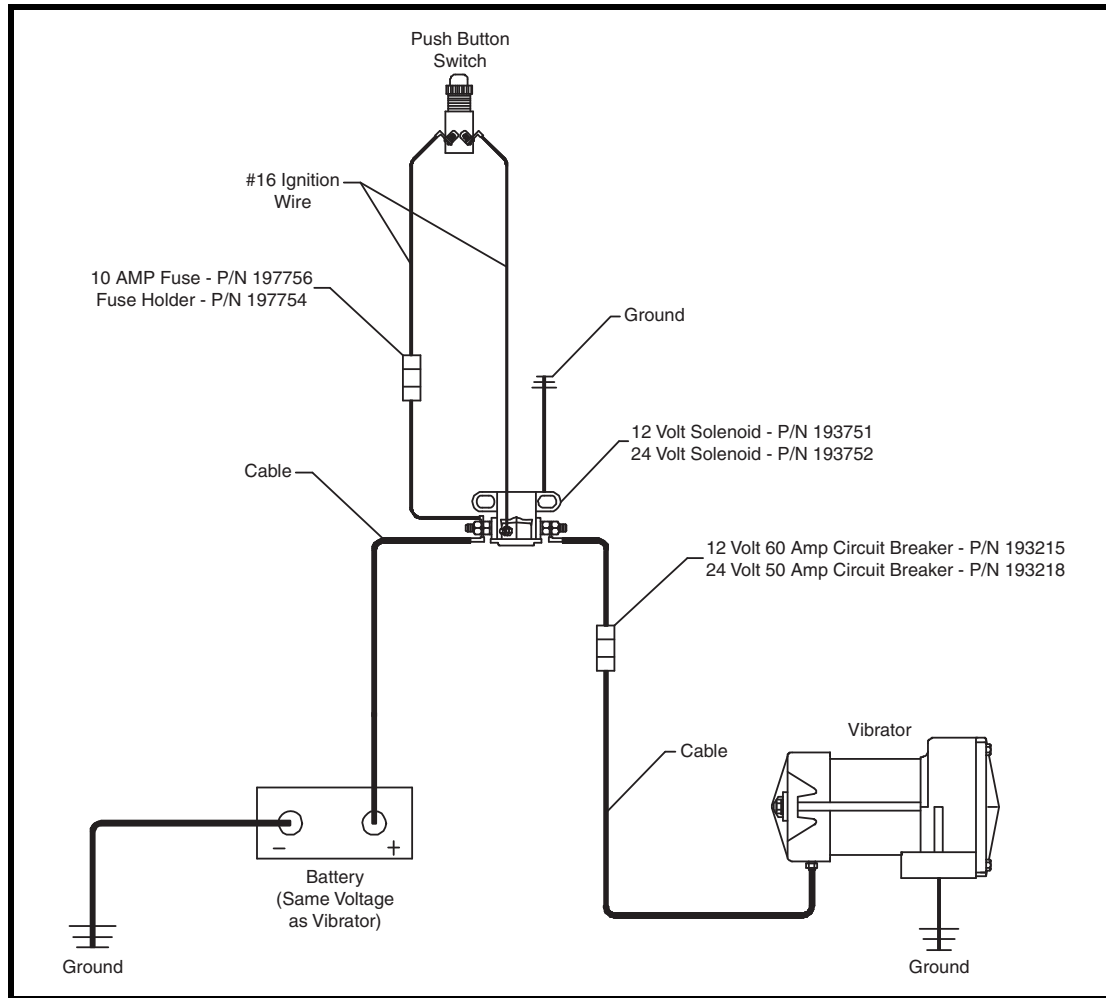

Figure 3. Cougar® DC Electric Vibrators Wiring Diagram without Timer
If not using a timer (Figure 3) skip to step 7.
10. Run the cable down the truck box and around the pivot point in a position where the cable will not be pinched or pulled when the box is raised and lowered. (See Figure 3.)
17. Make sure truck box is properly grounded by running a ground strap behind the pivot point and attach to truck frame. This will ensure that the vibrator has the best possible ground. (See Figure 3.) Use #4 wire and ring terminals provided to make a ground strap.